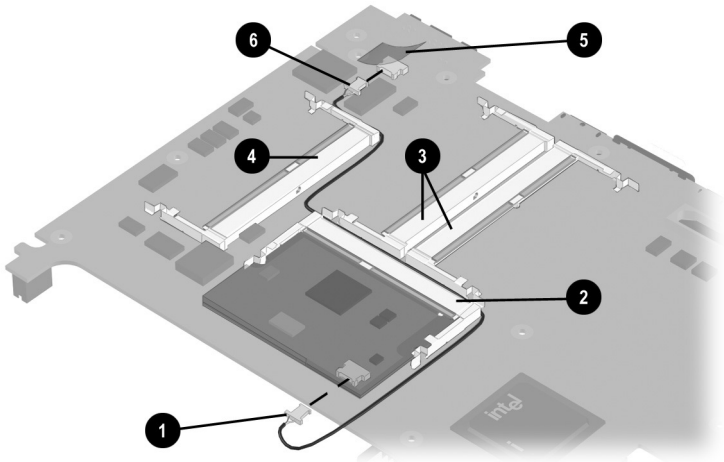

Figure 5-35. Removing the Modem Cable
4. Disconnect the modem cable ❶ from the modem and route it from between the modem connector ❷ and the memory expansion ❸ and video memory connectors ❹ (Figure 5-35).
5. Remove the tape ❺ that secures the modem cable to the system board.
6. Disconnect the modem cable from the system board ❻.